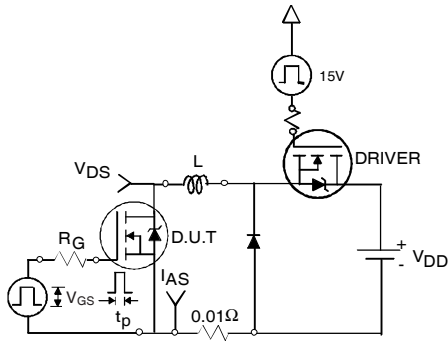

Fig 12a. Unclamped Inductive Test Circuit
- ③ Pulse width $\leq 1.0\text{ms}$; duty cycle $\leq 2\%$.
- ④ $C_{oss\ eff.}$ is a fixed capacitance that gives the same charging time as C_{oss} while V_{DS} is rising from 0 to 80% V_{DSS} .
- ⑤ Limited by T_{Jmax} , see Fig.12a, 12b, 15, 16 for typical repetitive avalanche performance.
- ⑥ This value determined from sample failure population, starting $T_J = 25^\circ\text{C}, L = 0.10\text{mH}, R_G = 25\Omega, I_{AS} = 75A, V_{GS} = 10V$.
- ⑦ This is applied to D²Pak, when mounted on 1" square PCB (FR-4 or G-10 Material). For recommended footprint and soldering techniques refer to application note #AN-994.
3. Equation below based on circuit and waveforms shown in Figures 12a, 12b.